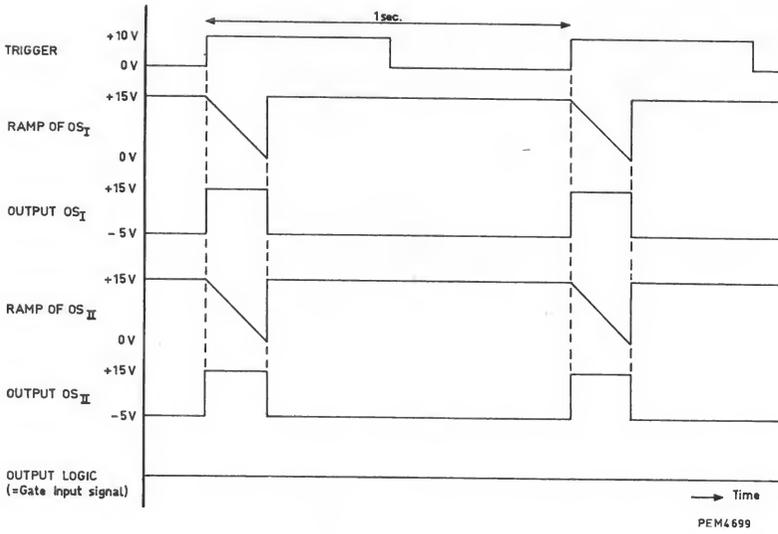

Fig. 4a
- Fig. 4a. Pulse diagram of the ADC, with the input socket connected to "0"
The squarewave pulses of both multivibrators are fed into a logic circuit, which detects the difference in pulse width of the two signals. Consequently, the squarewave pulse leaving the logic circuit will be proportional to the value of the voltage, current or resistance, applied to the input of the instrument, see Figs. 4a, b and c.
When short-circuiting the input, the ramp of both multivibrators will have the same slope (adjustable with "ZERO"), and there will be no difference in pulse width (see Fig. 4a).